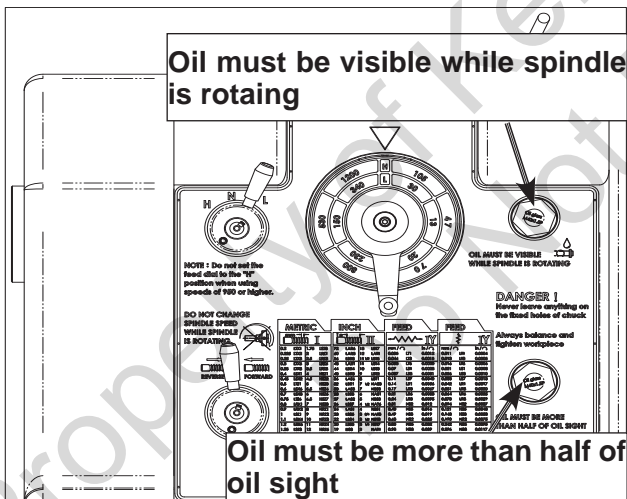
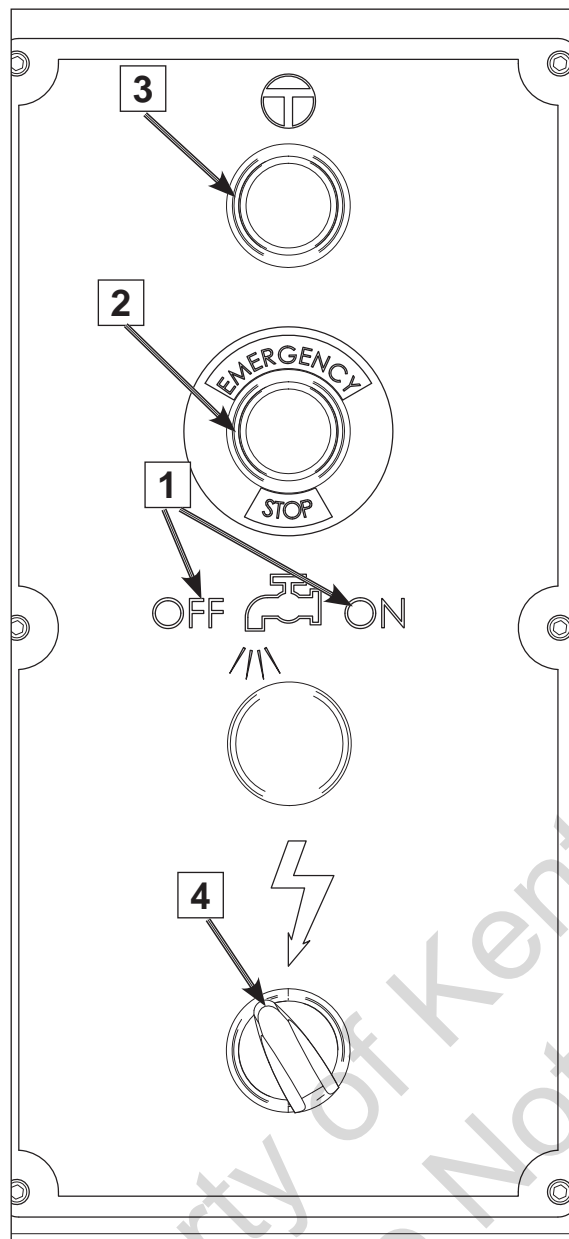

Figure 3. Oil pump sight glass and oil tube.
Figure 5. Control Panel.
2. Rotate the stop button (**Figure 5** on **Page 7**) clockwise until it pops out. The pump will turn **ON**. Observe the oil pump tube sight glass (**Figure 3**). Verify that you see oil flowing out of the tube and against the sight glass.